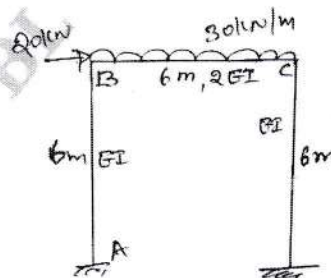

Fig.Q.7
- 7 Analyze the frame shown in Fig.Q.7 by the matrix stiffness method. Adopt transformation approach.